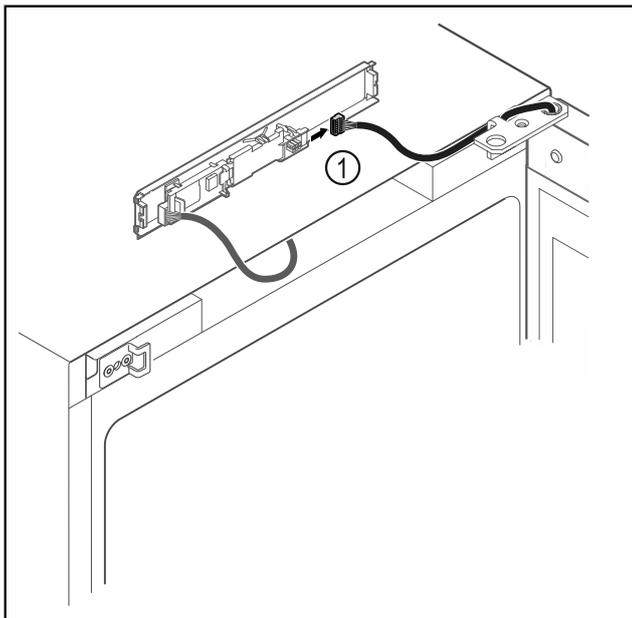

Fig. 16
- ▶ Disconnect the plug Fig. 16 (1) from the circuit board.